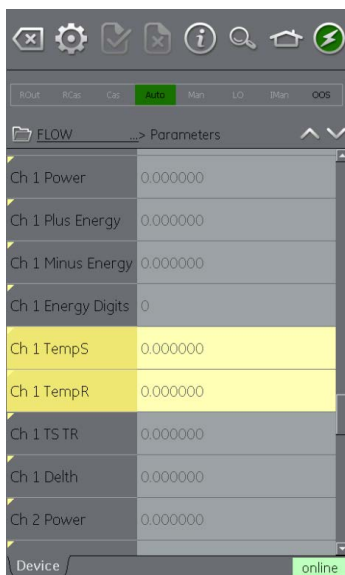

Figure 8-17 Function Finder
4. Function Finder will then display the Function Group concerned in the device view with all searched variables highlighted in yellow (refer to Figure 8-17).